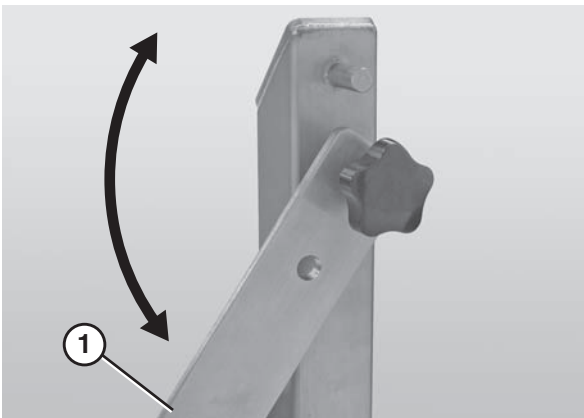

Figure 47
2. Lower the quick release arm (**Figure 47, item 1**) on one of the stands. *Note: if the conveyor is not equipped with Quick Release (QR Type) stands, it will be necessary to remove the entire stand.* For detailed instructions, refer to the “Sanitary Support Stands Installation, Maintenance and Parts Manual.”